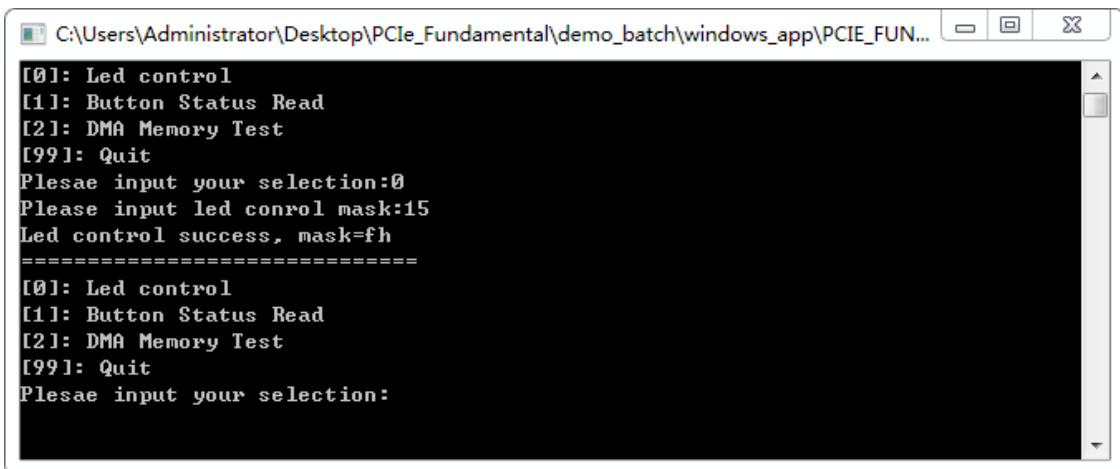

Figure 7-13 Screenshot of LED Control
7. Type 0 followed by a ENTER key to select Led Control item, then input 15 (hex 0x0f) will make all led on as shown in **Figure 7-13**. If input 0(hex 0x00), all led will be turned off.